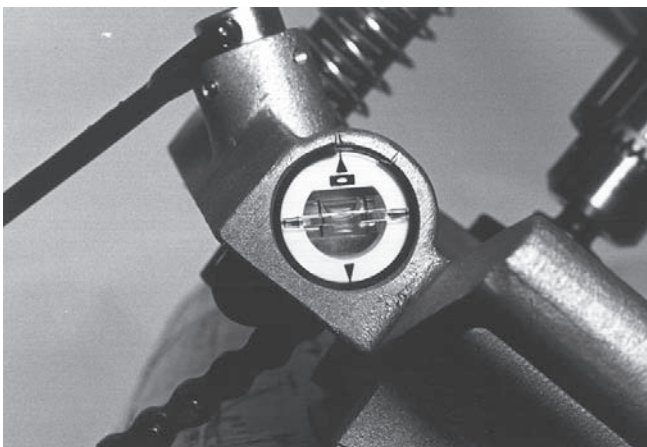

Figure 6 – HC-450 Hole Cutting Tool Level Vial
4. The base of the HC-450 Hole Cutting Tool includes a level vial that can be used to align a series of holes. When the Hole Cutting Tool is placed at the desired angle, the vial can be rotated to the level position, and subsequent holes can be made at the same angle by leveling the Hole Cutting Tool with the vial. (See Figure 6.)